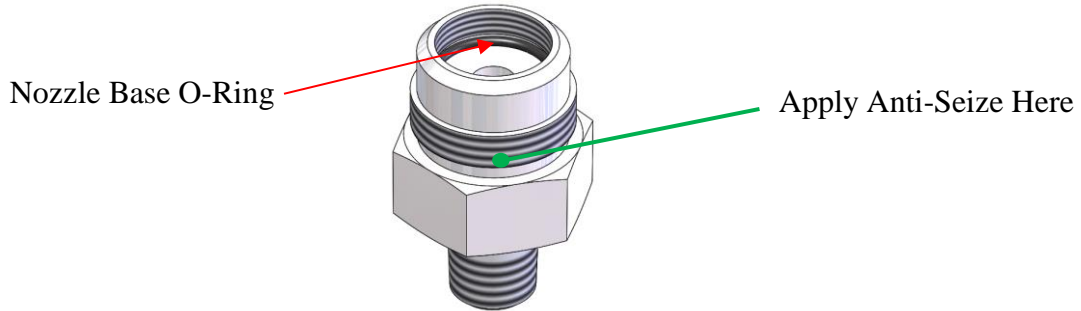

Figure 28: Inlet Base
13. Install the nozzle base o-ring into the lower corner of the nozzle pocket. See Figure 28.
25. Put a small amount of anti-seize on the threads of the inlet base that get screwed into body. See Figure 28.